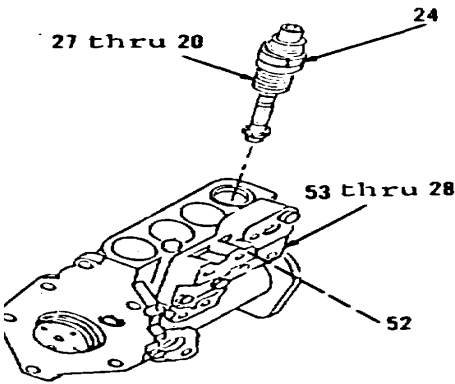

Figure 3-95.
- 27. Position washer (21) on plunger assembly (20) with flat side of washer facing gear on plunger assembly (20).
- 28. Install plunger assembly (20) through spring (22) and into barrel (24) until washer (21) engages spring (22).
- 29. Aline items 27 thru 20 as an assembly with slot in gear on items 53 thru 28 180 degrees away from groove in barrel (24, Figure 3-95).
- 30. Using extractor, aline groove in barrel (24) with dowel (52) in housing (53) and install. Installation of remaining pump assemblies is the same.